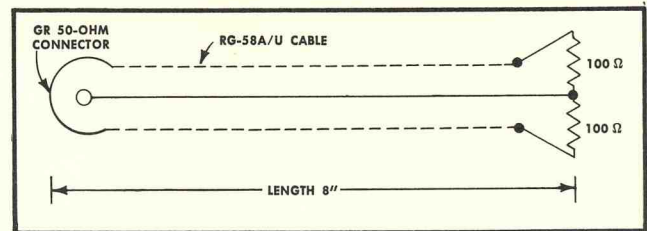

Fig. 6-1. 50-ohm terminated pigtail circuit.
- (1) Conventional test oscilloscope such as a Tektronix Type 540-Series Oscilloscope with a Type L Plug-In Unit, a Type P6000 10X Attenuator Probe and a Type P6027 1X Attenuator Probe. Substitute specifications: Bandpass 30 mc with the 10X probe; deflection factor, at least 50 mv per cm and at least 5 mv per cm at reduced band-pass.
- (2) Sampling test oscilloscope such as a Tektronix Type 561 Oscilloscope with a Type 3S76 and a Type 3T77 Plug-In Units. Substitute specifications: Risetime, 0.4 nsec or less; any deflection factor up to 20 volts per division. (The Tektronix Type 519 (conventional) Oscilloscope can also be used as an excellent substitute.)
- (3) One 50-ohm 20-nsec cable, 160", RG-8A/U, with GR 874 connectors on each end, Part No. 017-504.
- (4) One 50-ohm 5 nsec cable, 40", RG-8A/U, with GR 874 connectors on each end, Part No. 017-502.
- (5) One 50-ohm terminated cable assembled as shown in Fig. 6-1. Requires the following parts: